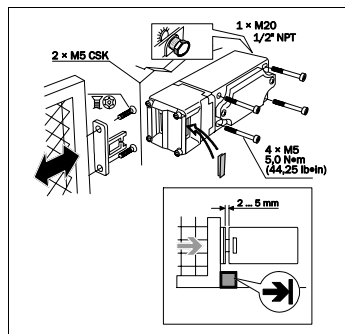

Fig. 1: Mounting
- Mount the safety switch positively (see Fig. 1).
- Fit an additional stop for moving parts of the guard (see Fig. 1).